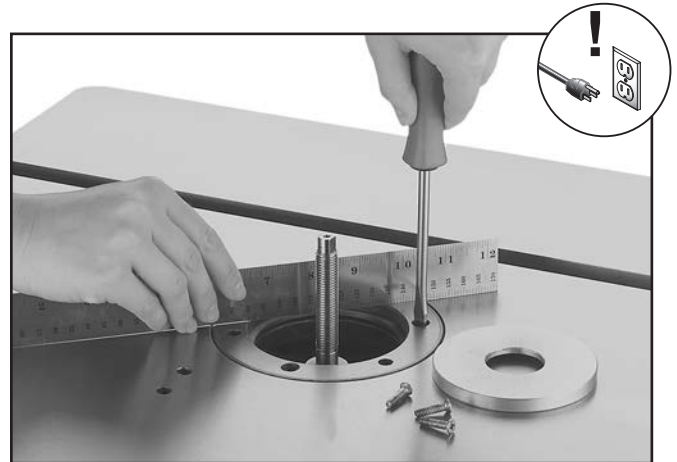

Figure 69. Leveling the insert ring.
3. Lay a precision straightedge across the insert ring and the table, then adjust the barrel screws until the insert ring is level with the table top in all directions (see **Figure 69**).